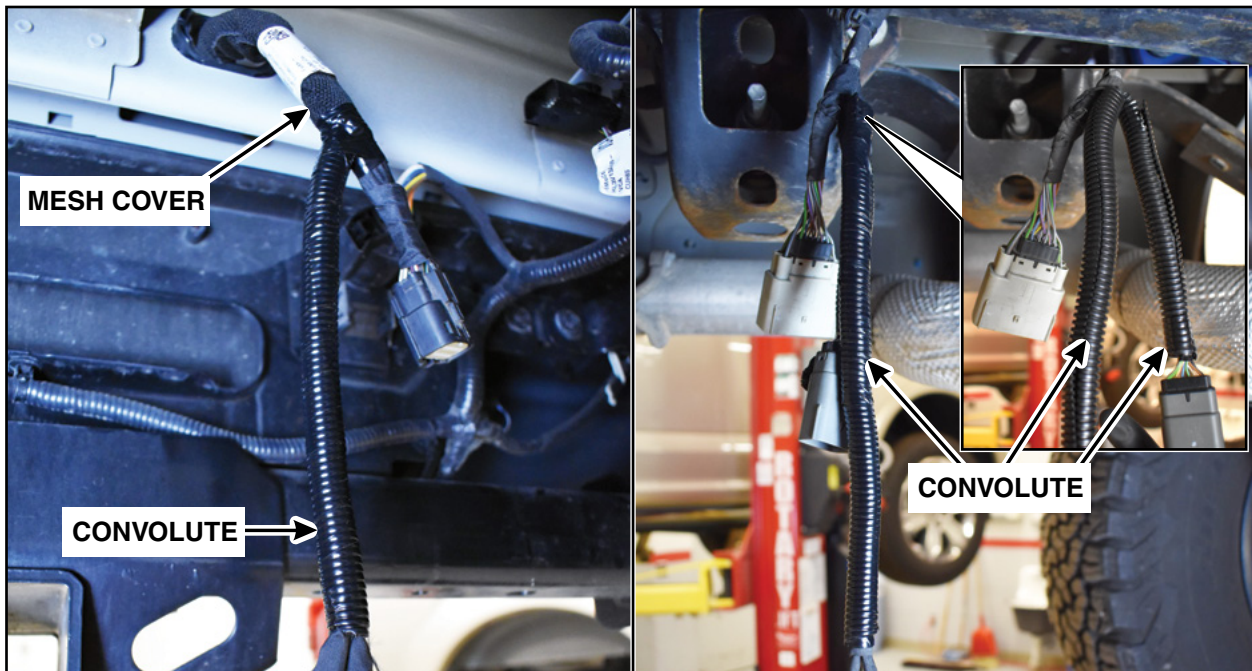

FIGURE 24
27. Position back the mesh cover. Cut to fit the *new* convolute and properly cover any exposed wiring then secure using electrical tape. See Figure 24.